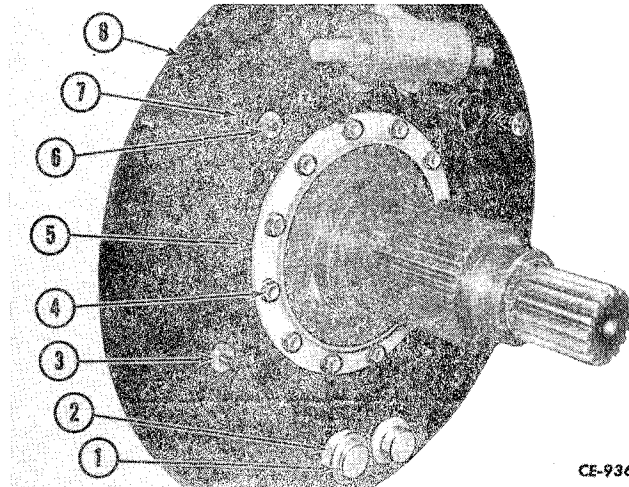

Figure 13-4
Remove the retainer (1, Fig. 13-4), felt washer (2), flat washer (3), flat washer (6) and spring (7). Remove the cap screws (4) securing the oil scavenger (5) and backing plate (8) to the axle. Remove the scavenger and plate.
Install the backing plate (8, Fig. 13-4) and oil scavenger (5) on the axle and secure with the cap screws (4). Install the spring (7), flat washer (6) flat washer (3), felt washer (2) and retainer (1).